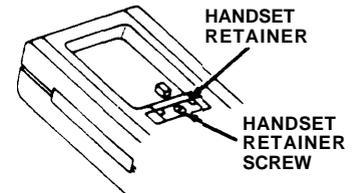

Figure 5
- Remove the screw under the number card and lift out the handset retainer from the upper housing. (see Figure 5).